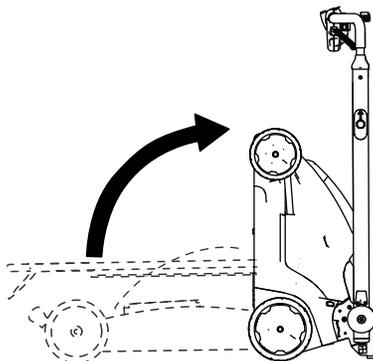

Figure 22
5. Tilt the machine back and roll it by the handle into a storage space (Figure 22).